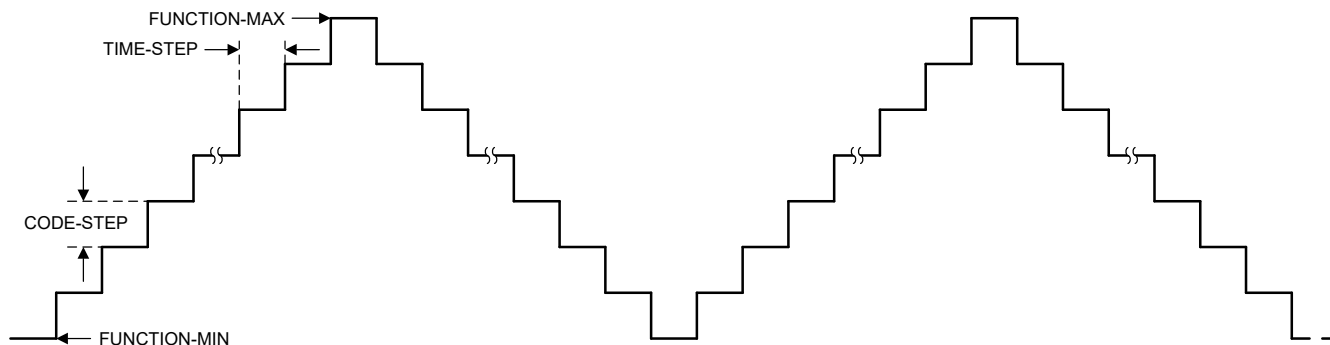

图 7-4. Triangle Waveform
图 7-4 shows that the triangular waveform uses the FUNCTION-MIN and FUNCTION-MAX registers for minimum and maximum levels, respectively. 方程式 4 calculates the frequency of the waveform depending on the minimum and maximum levels, and the CODE-STEP and TIME-STEP settings. An external resistor-capacitor (RC) load with a time-constant greater than the TIME-STEP settings can be dominant over the internal frequency calculation. The CODE-STEP and TIME-STEP settings are available in the FUNCTION-CONFIG register. Write 0b000 to the FUNCTION-SELECT bit field in the FUNCTION-CONFIG register to select the triangular waveform.